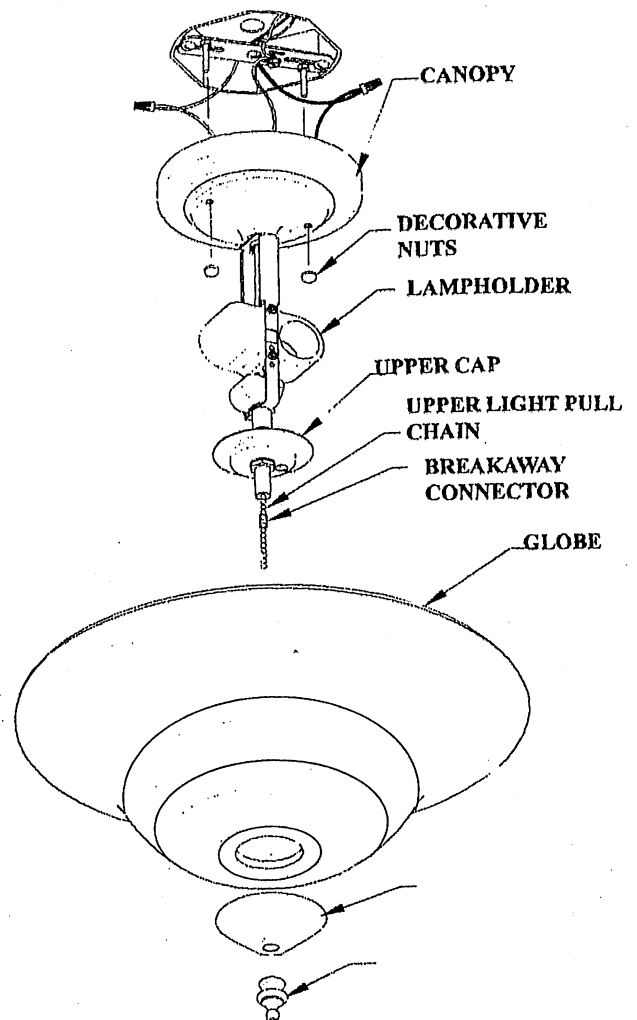

FIGURE 3
NOTE: Refer to Figure 3 for the steps below.
NOTE: Refer to Figures 3 and 4 for the steps below.
3. Locate and install the fan mounting plate over the pipe nipple as shown in Figure 3.